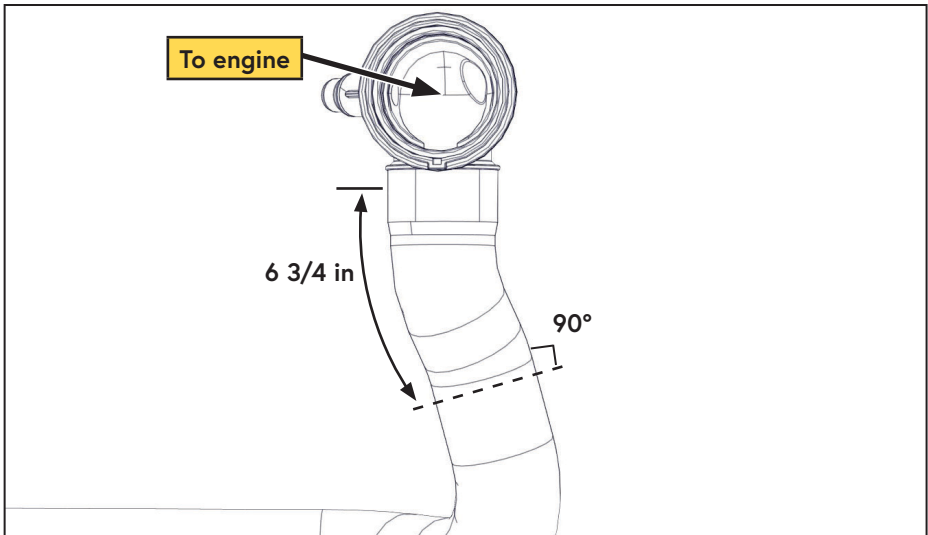

Figure 3 — Lower radiator hose modification
- ☐ From the radiator side of the hose, measure 6 3/4 in along the outside radius towards the center of the hose and mark with a grease pen (Figure 3).